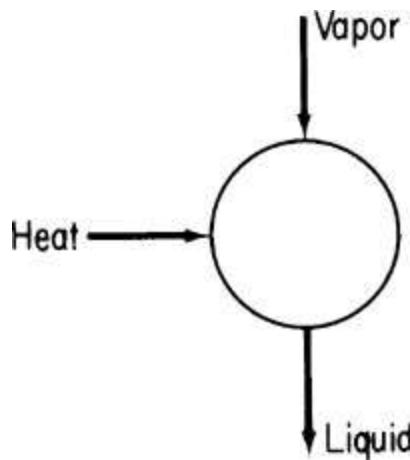

Figure P12.1
12.1. Determine the number of degrees of freedom for the condenser shown in Figure P12.1.